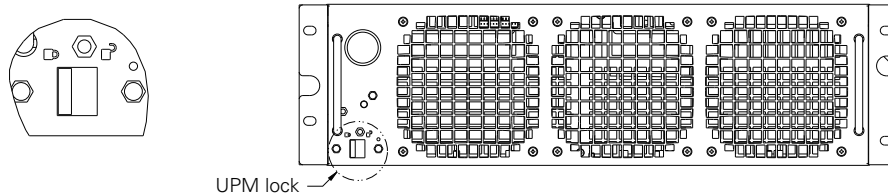

Figure 6-8: Adding the UPS Module Online
3. Set the position lock located on the front panel of the module to "  "see Figure. 6-8).